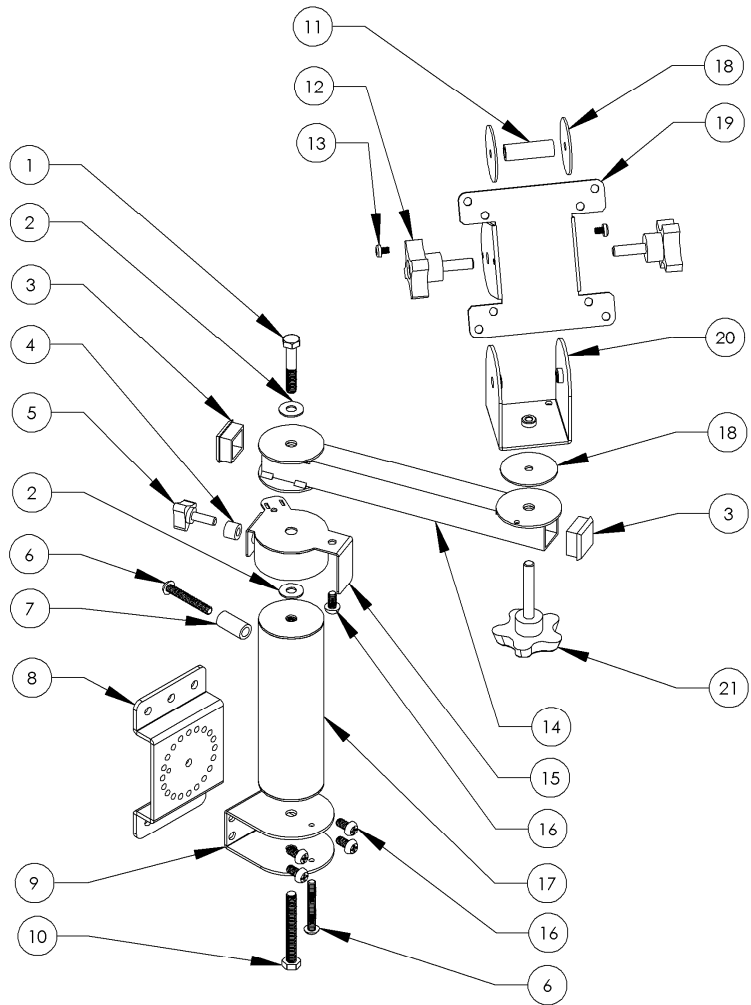

Figure 6 - UVHM-SM-R6-VESA
1. Lay the anti-slip washer on the top of the end of the arm (See Figure 6).